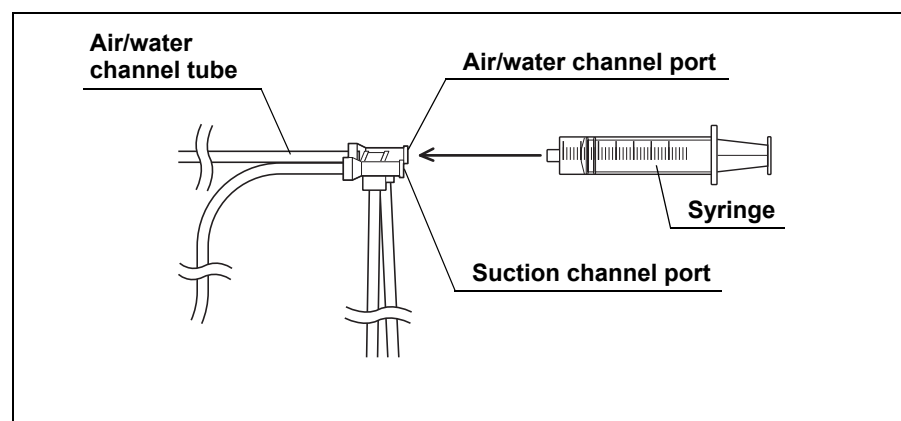

Figure 5.54
5. Move the syringe to the air/water channel port of the injection tube and flush the air/water channel with 90 ml of water (i.e., pump the syringe at least three times) (see Figure 5.54).
21. Move the syringe to the air/water channel port of the injection tube and flush the air/water channel with 90 ml of air (see Figure 5.54).
7. Move the syringe to the air/water channel port of the injection tube and forcefully flush the air/water channel with 180 ml of the disinfectant solution – i.e., by pumping the syringe at least six times. Confirm that no air bubbles exit the distal end during the sixth flush. If air bubbles still exit, flush the channel with the disinfectant solution until no air bubbles exit (see Figure 5.54).